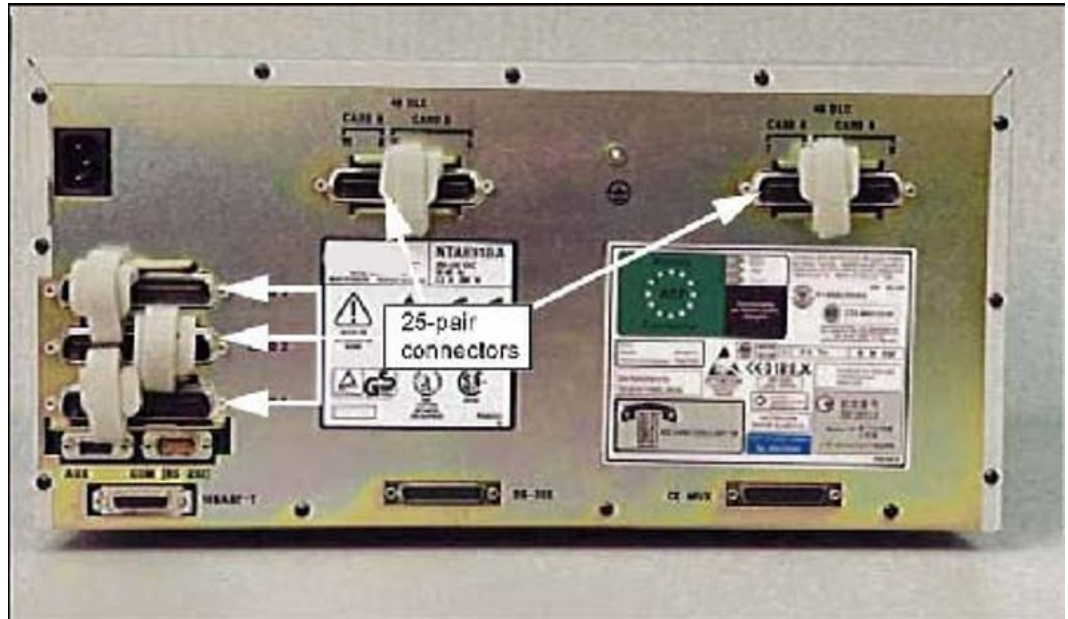

Figure 36: Chassis
2. In the chassis, connect to 15-pin DSUB connector on the back panel formerly used for the 10Base-T AUI connection. Figure 36: Chassis on page 173 shows the 10Base-T AUI connection of the chassis.